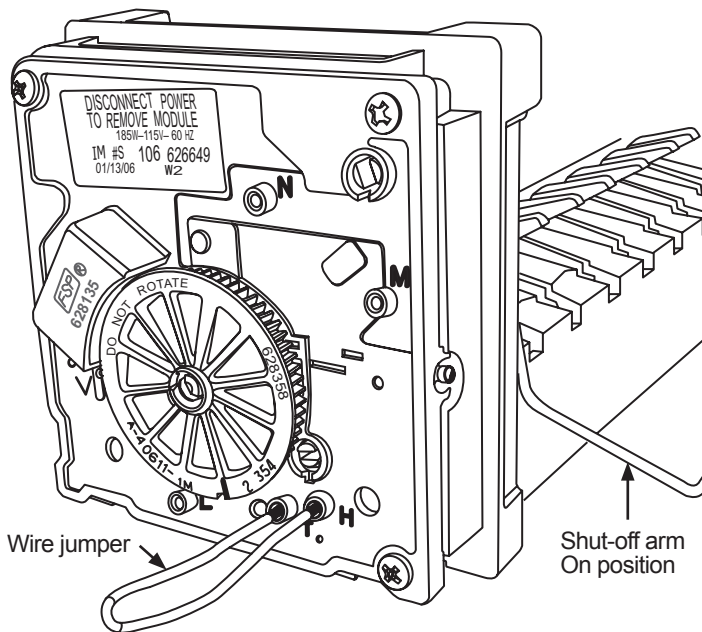

Figure 9-9. —Cycling the ice maker manually.
4. Jump test points T and H. See Figure 9-9, page 73.